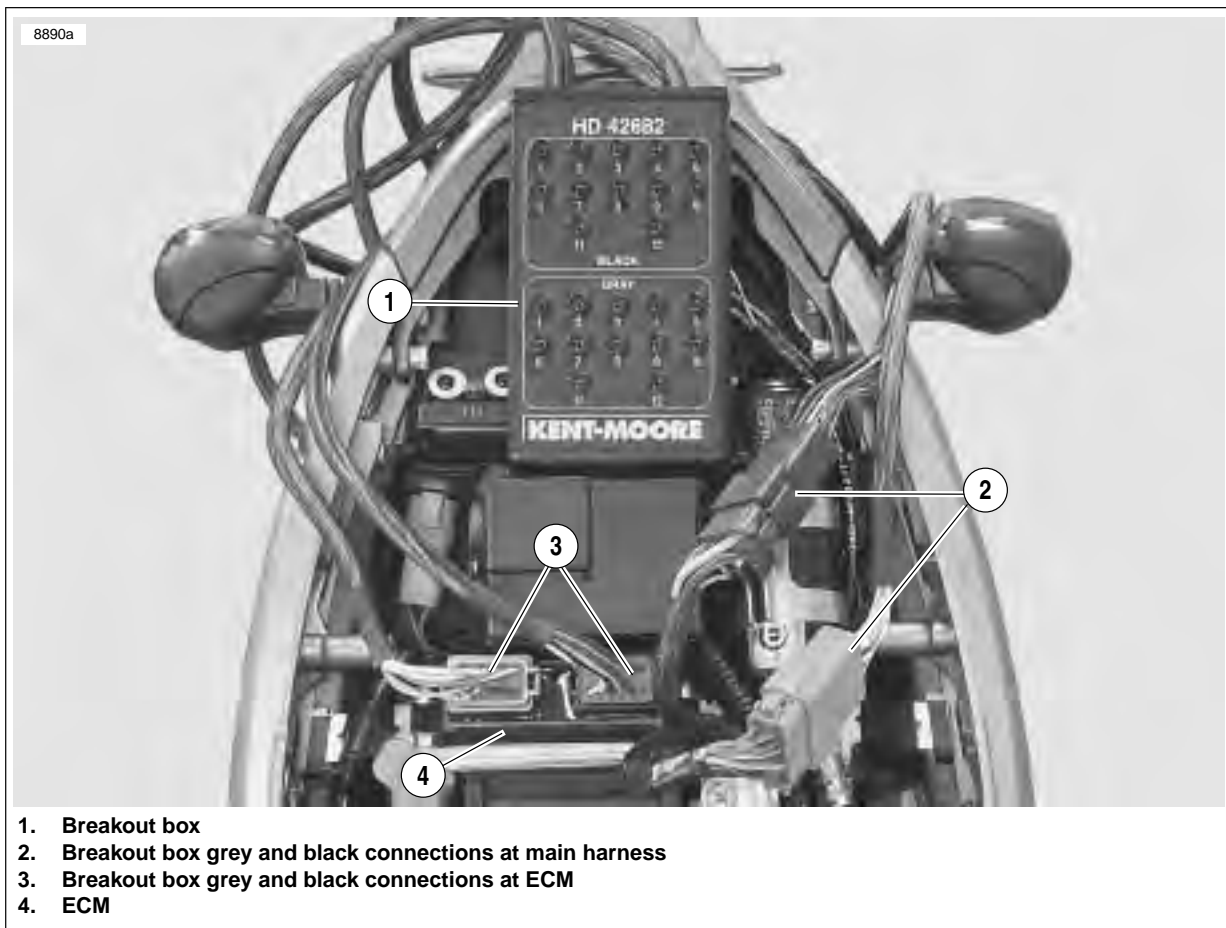

Figure 4-9. ECM and Breakout Box with Connections (Typical)
3. See Figure 4-9. Attach Breakout Box (2) to black connector [10].
1. See Figure 4-9. Depress latches on each side of connectors [10] (black) and [11] (gray).